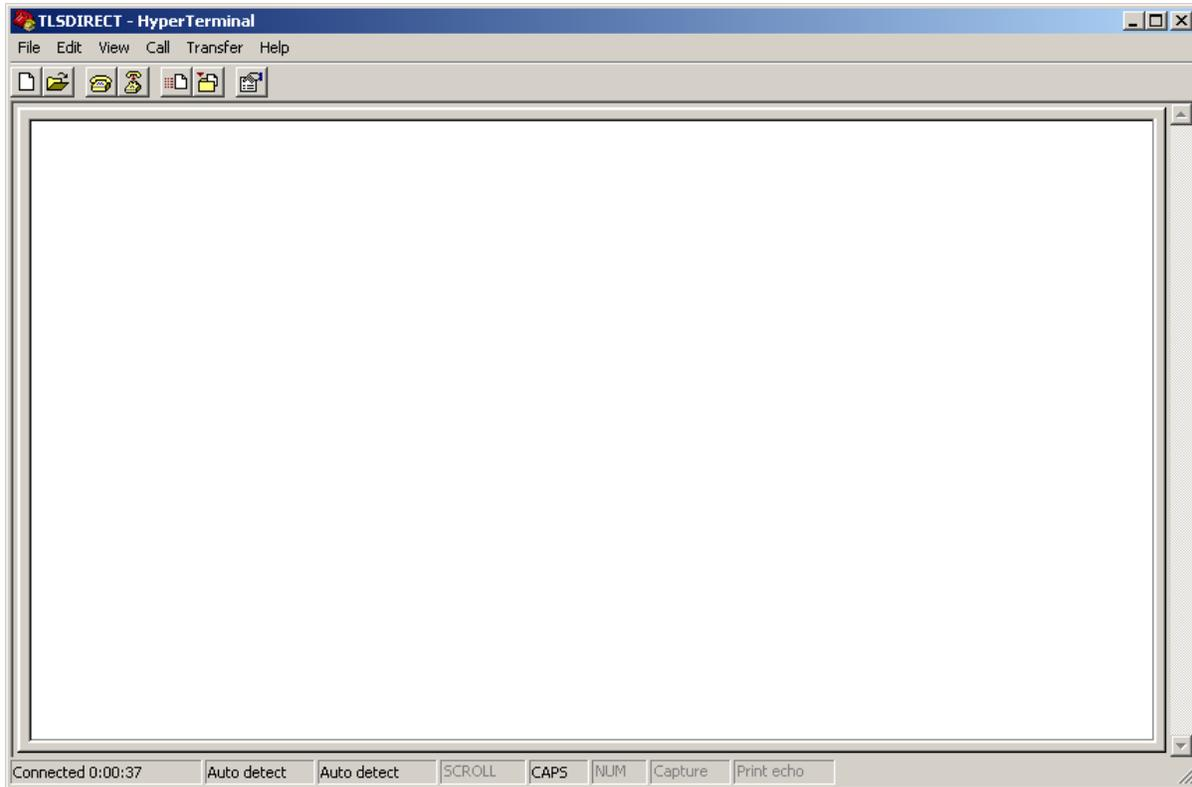

Figure 34. HyperTerminal main window
6. After entering your port settings, the program's main window appears (Figure 34).